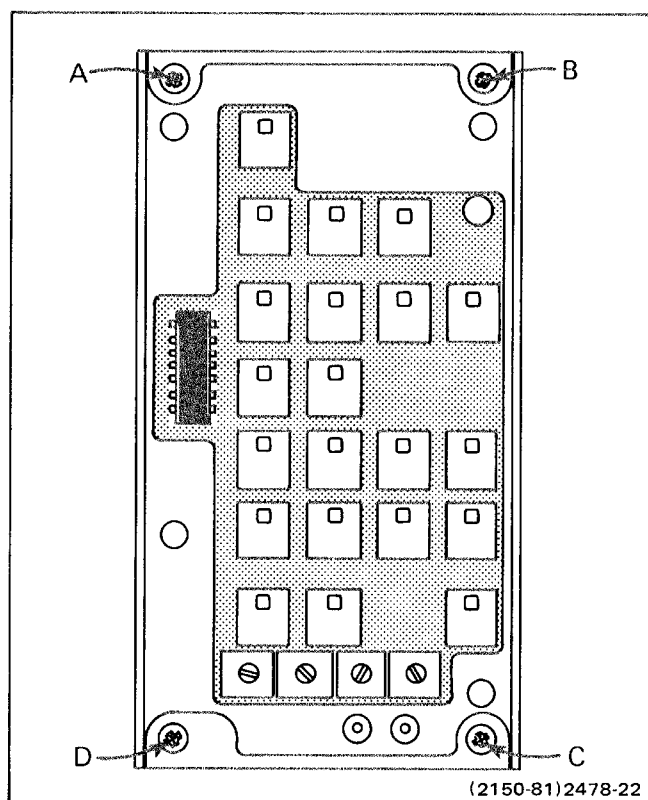

Figure 6-5. Locations of securing screws on the front sub-panel.
3. Remove 4 screws (A, B, C, and D on Figure 6-5) from front sub-panel assembly.